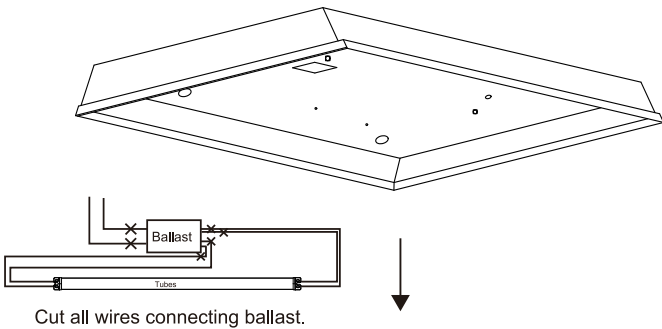

Figure 1
- 4) Remove lens, cover, and fluorescent tubes. Cut away all wires connecting the ballast and remove the ballast if necessary (Figure 1).